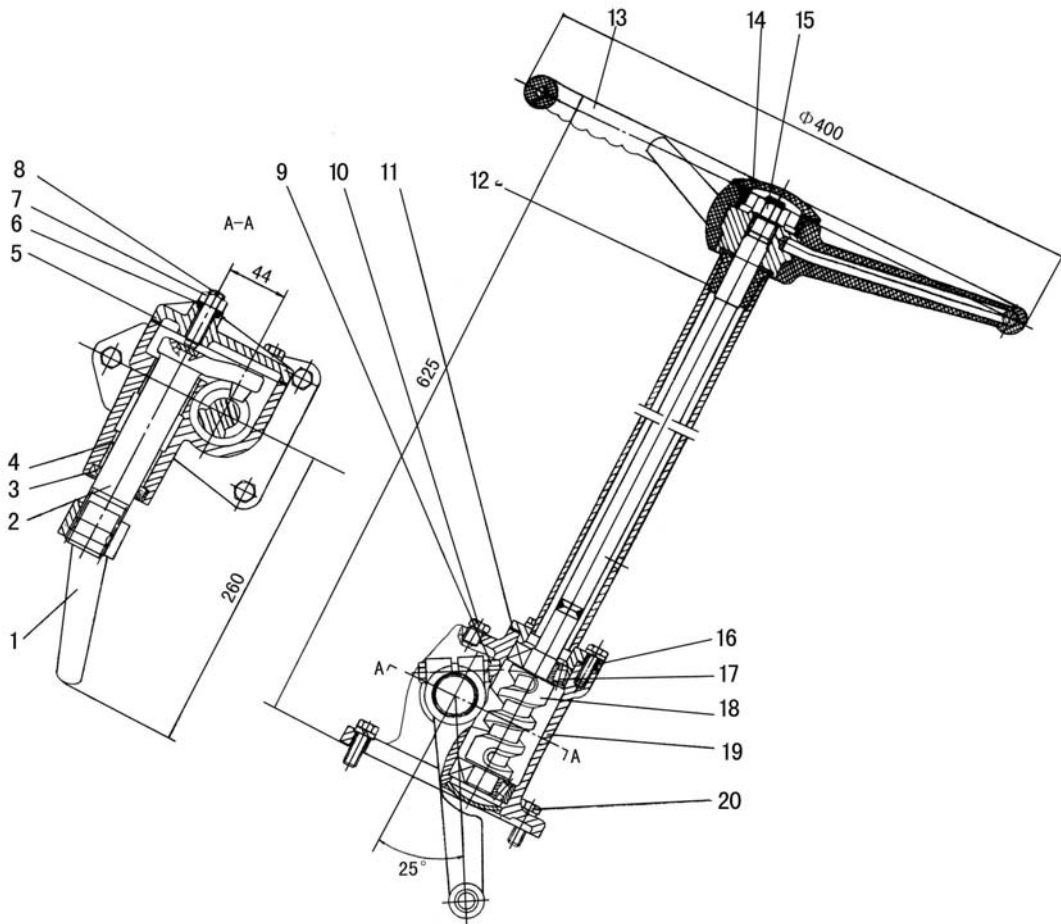
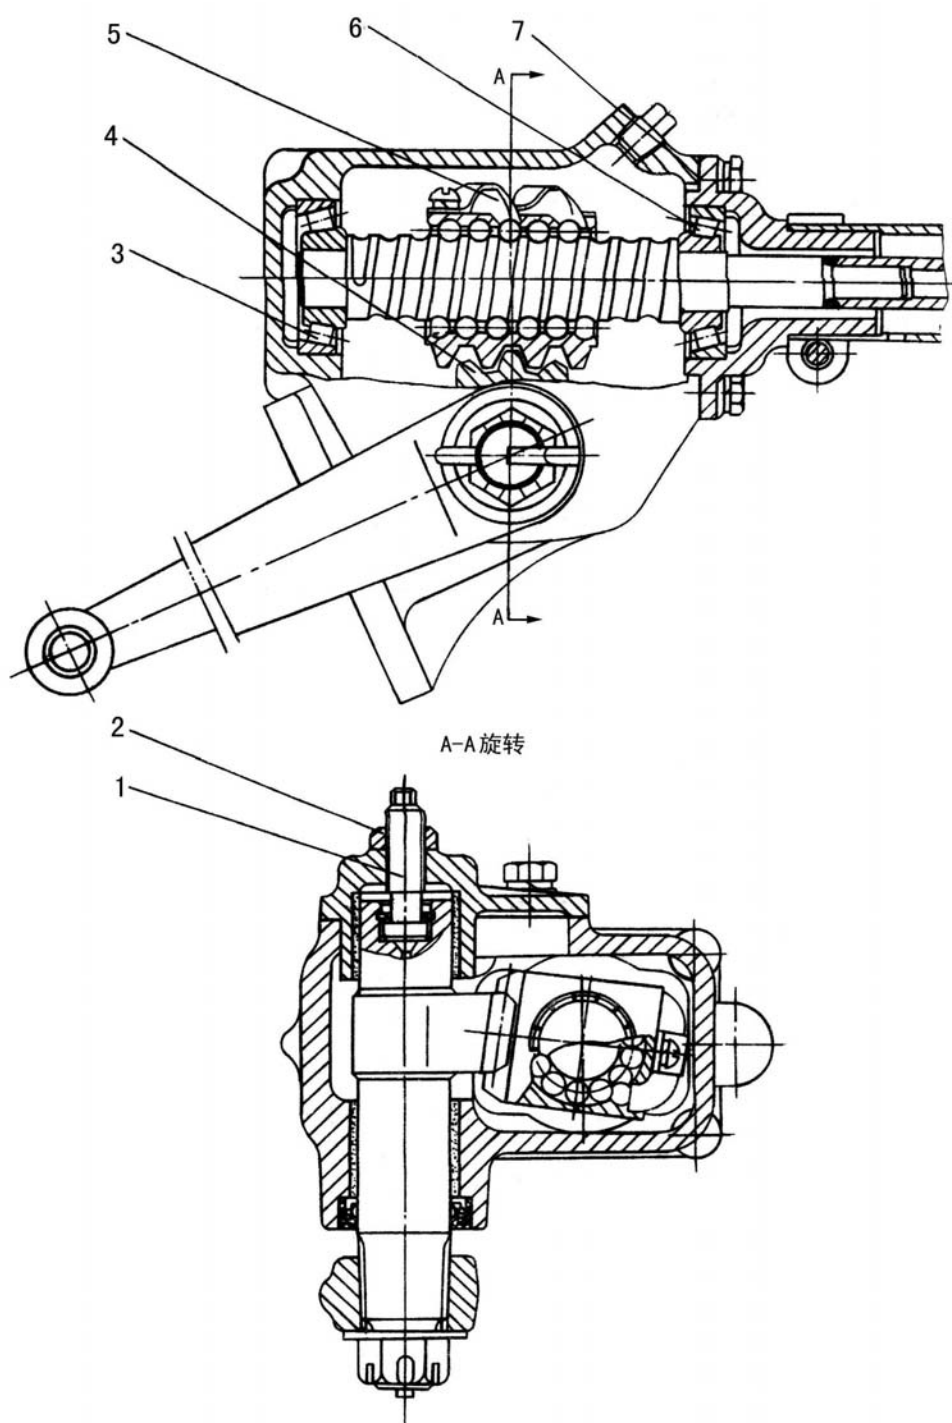
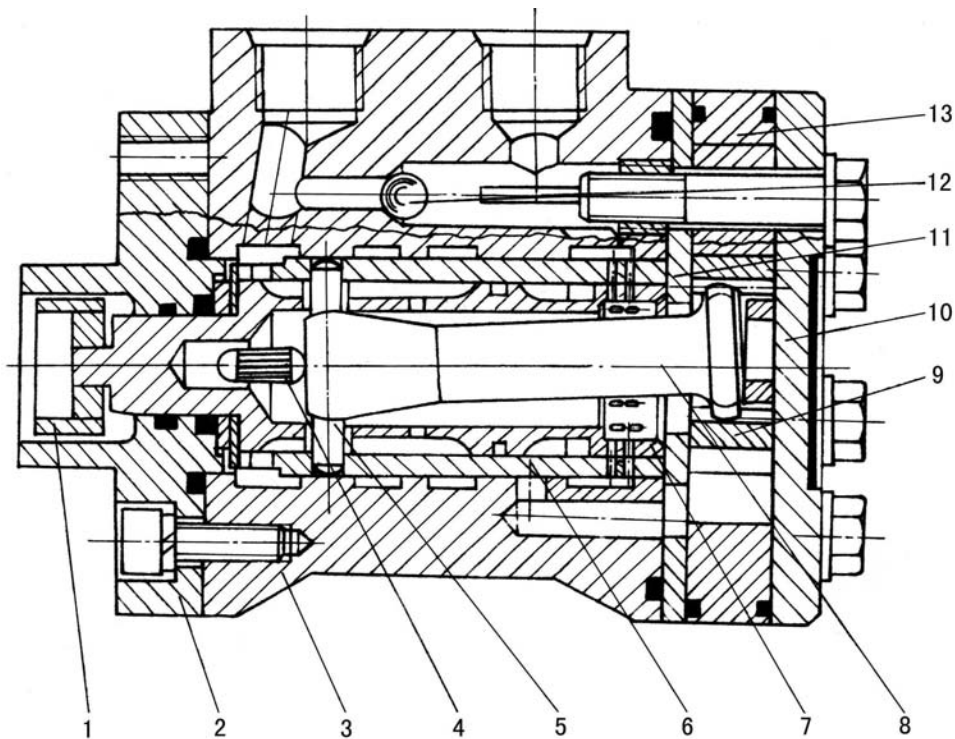

Fig.4-12 Crankpin type steering gear
Fig.4-13 Circulating ball type steering gear
Fig.4-14 Balance string type hydraulic steering gear
There are three kinds of steering gear of Agracat Series Tractors: crankpin type (Fig.4-12), circulating ball type (Fig.4-13) and hydraulic steering gear (Fig.4-14).
1) Adjustment of crankpin type steering gear (Fig.4-12)
A. Working principle of balance string type hydraulic steering gears BZZ series balance string type hydraulic steering gears are adopted in the hydraulic steering gears of Agracat series tractors; their structure diagram is as Fig.4-14. It is mainly made up of steering control valve and steering measuring device.